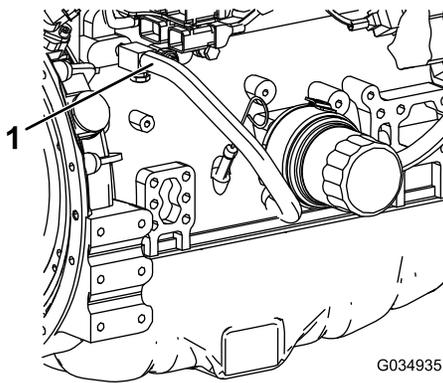

Figure 126
7. Remove the coolant hose from the engine-oil cooler (Figure 126).